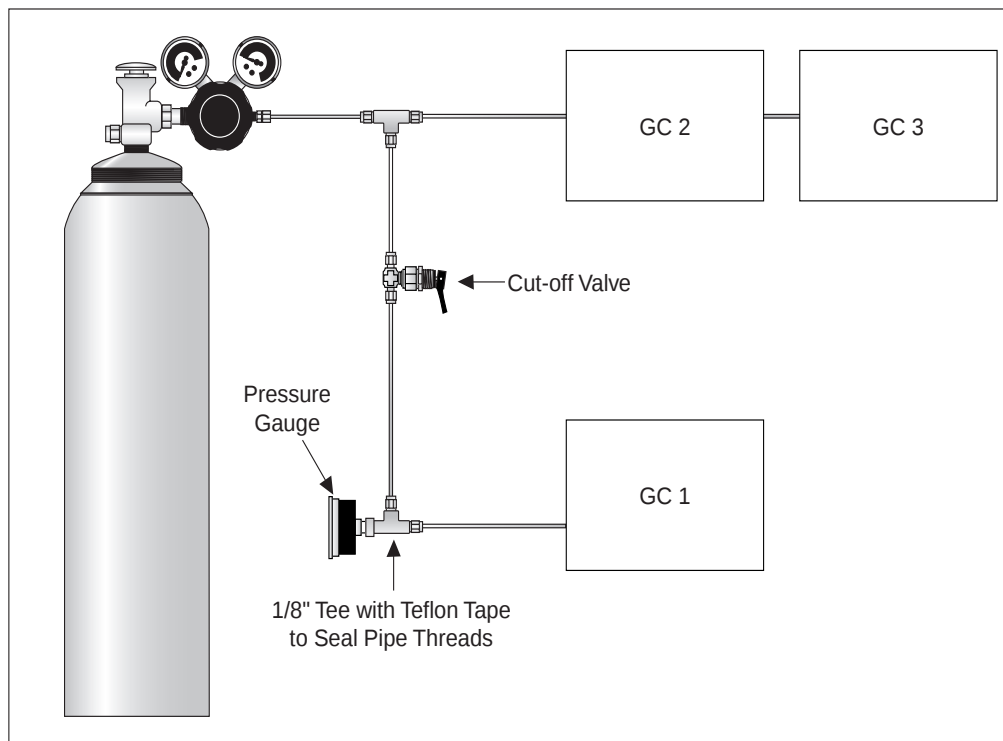

Figure 10-3. Testing Multiple Systems
1. Install a cut-off valve and pressure gauge with an 1/8 inch input tee in the gas line leading to the GC that you are leak testing, as shown in Figure 10-3. Be sure the pressure gauge is connected in line between the on/off valve and the GC.